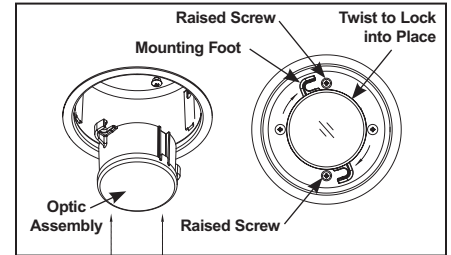

Figure 7
Step 3. Insert optic assembly into housing, with mounting feet aligned with raised screws. Twist optic assembly clockwise so mounting feet engage screws. Twist firmly to lock in place (Fig. 7).
Step 2. Remove optic assembly from housing by twisting counter-clockwise to unlock. (Fig. 7)